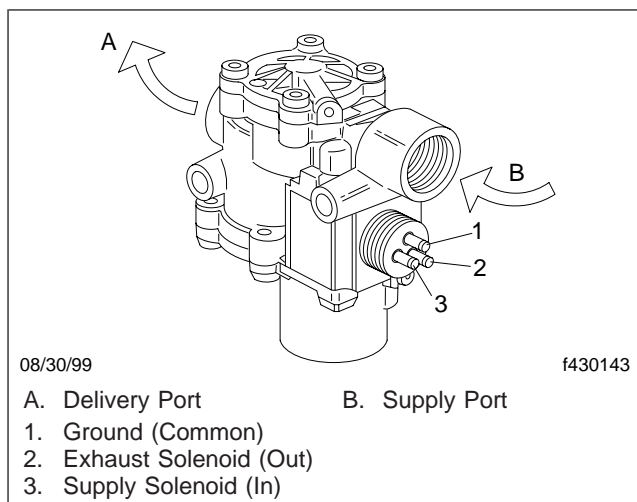

Fig. 3, Modulator Valve Terminals
3. Connect ohmmeter probes to the modulator valve "In" solenoid and "Ground" terminals and read the resistance. Then, move the probes to the "Out" and "Ground" terminals and read the resistance. See **Fig. 3** for the modulator terminal locations.